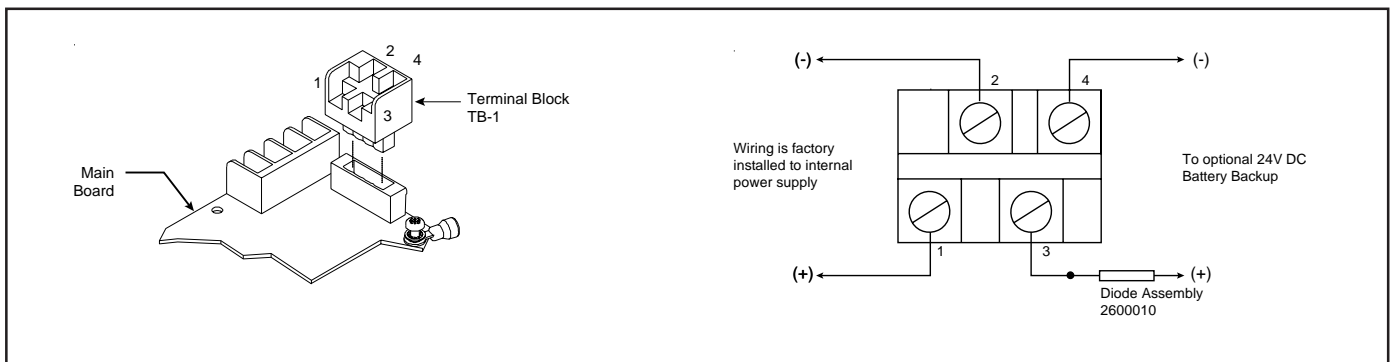

Figure 4. Wiring to Terminal Block TB1
- Optional. Connect external 24V DC battery (not supplied) in series with separate diode assembly part 2600010 (supplied) to TB1 terminals 3 and 4 on the main board as shown in Figure 4 and marked on the diode assembly.
NOTE: Terminal Block TB1 can be unplugged from the main board to complete wiring as shown in Figure 4.